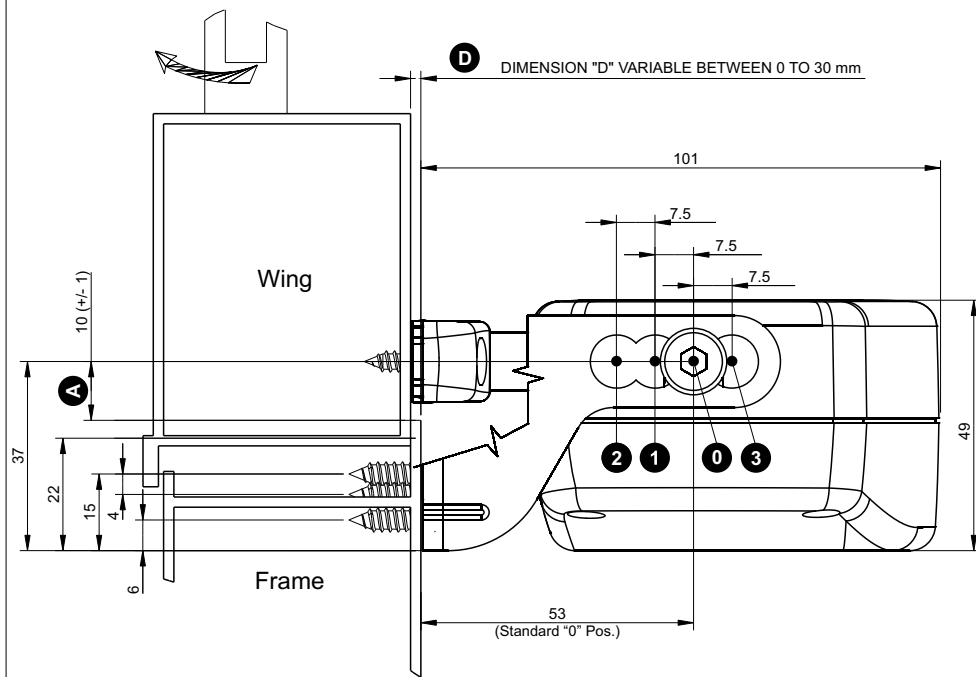
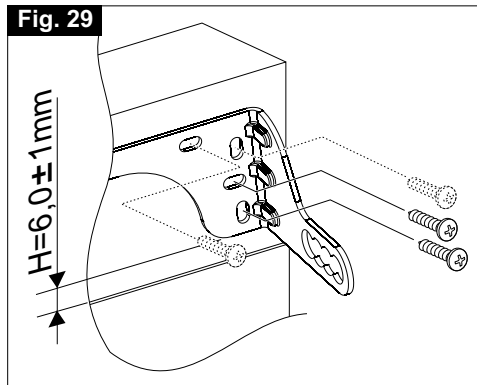

Fig. 7b Dimensions in mm
Fig. 30
VERIFY THAT THE DISTANCE "D" BETWEEN THE WINDOW FRAME (ON WHICH THE FIXING OF THE ACTUATOR IS FORESEEN) AND THE WINDOW FRAME WING (ON WHICH THE BRACKET FIXING IS FORESEEN) IS INCLUDED WITHIN 0 mm AND 30 mm, FOR THE TOP HUNG ASSEMBLY (SEE FIG. 7a), AND WITHIN 0 mm AND 22,5 mm FOR THE BOTTOM HUNG ASSEMBLY (SEE FIG. 7b).
- 5) **Fig. 30-** Align the bottom hung bracket with the centre line of the window using as reference the central hole of the fastening screws and position the bottom hung bracket at **E** (**see Fig. 7b**), then mark the drilling points;
- 7) **Fig.33-** Tighten with the two standard supplied screws (**Ref. 1**) the actuator on the bracket connecting it to the window frame in the position "0" (**see Fig. 7b**) and unscrew the chain adjustment end screw;
- 8) **Fig. 34-** Select the position of the actuator with reference to the bracket connecting it to the window frame (**see Fig. 7b**) and connect the chain end to the bottom hung bracket;